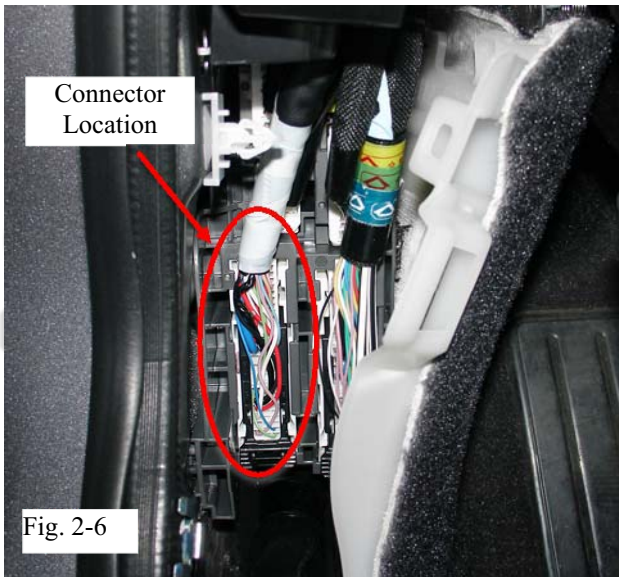

Fig. 2-6
- g) Locate the 67 pin connector on the driver side kick panel connector block as shown. (Fig. 2-6)